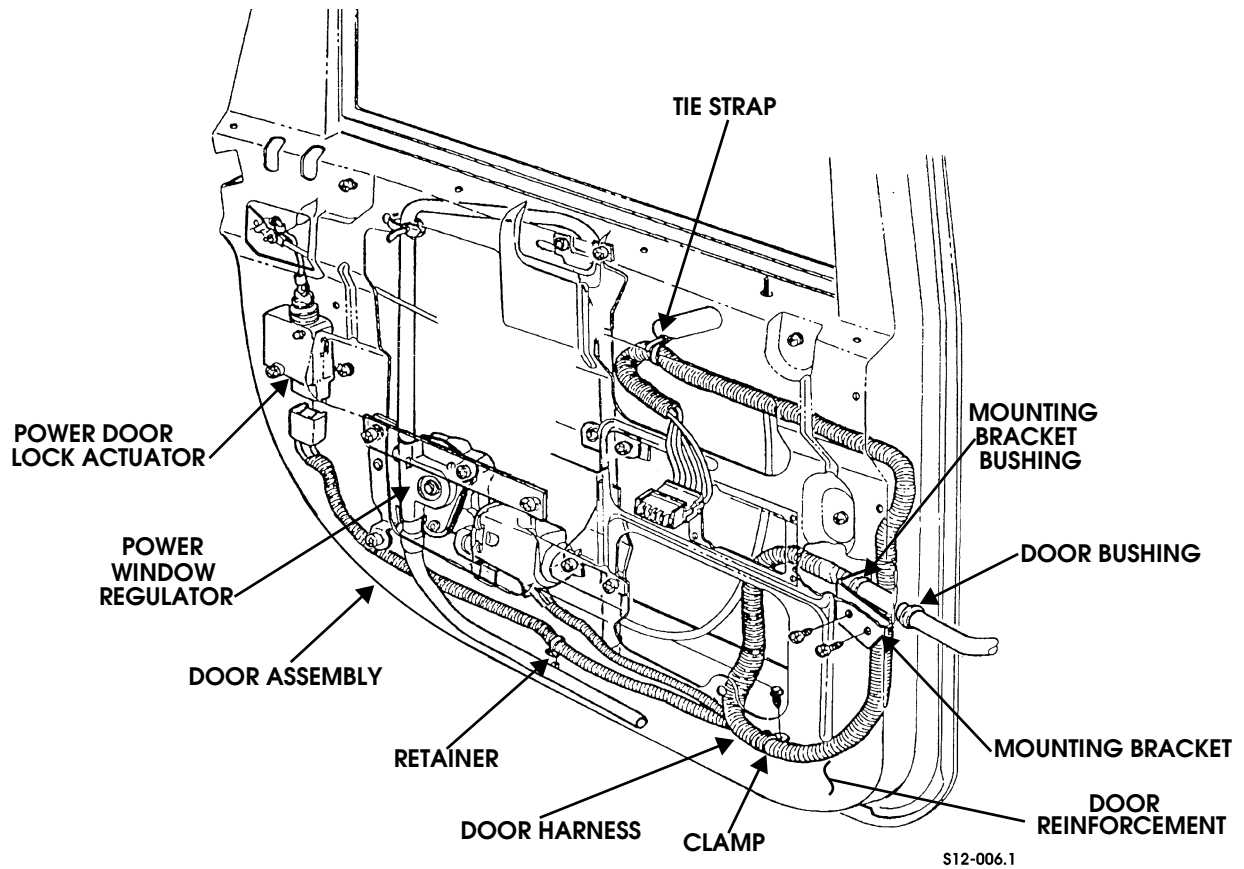

Figure 2-123: Rear Door Harness
9. Remove two self-tapping screws and harness mounting bracket from door assembly (Figure 2-123).
1. Route harness through harness mounting bracket, mounting bracket bushing, and door bushing (Figure 2-123).
7. Connect harness connector to power window regulator (Figure 2-123).